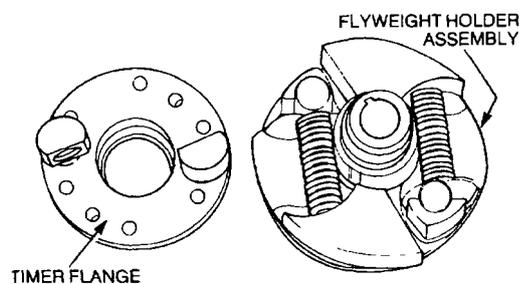

Figure 132 Removing the Timer Flange
- d. Place a clean piece of cloth over the timer to prevent the springs from being lost (the springs are under pressure), then using two screwdrivers, remove the timer flange (Figure 132).